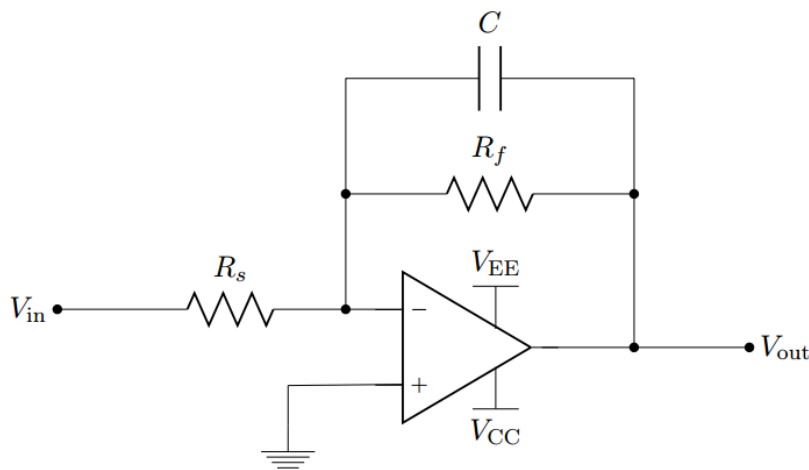

Figure 3.4: Integrating amplifier with shunt resistor
Now consider what happens when another resistor is added in parallel to the feedback capacitor, as shown in Figure 3.4.
- Derive the frequency response for the circuit in Figure 3.4, in terms of R_s , R_f , and C .
- Use SPICE to simulate the frequency response of Figure 3.4. If the input signal has a low frequency what is the expected gain? If the input signal has a high frequency what is the expected gain?